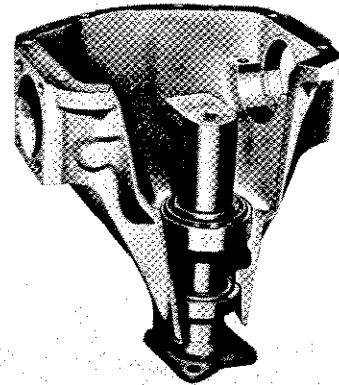
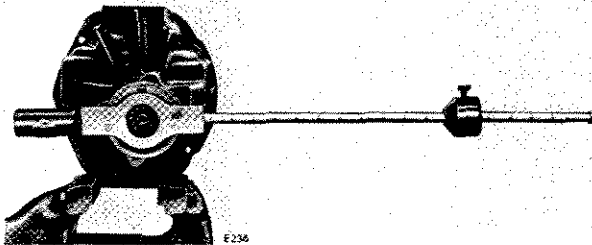

Fig. 78.
Fig. 82. Pre-load gauge
Fit the pinion head bearing cone (60) on the dummy pinion (Fig. 78) and install the assembly into the axle casing. Fit the tail bearing cone (12), the companion flange (18) and the washer and nut (16) and (23) onto the pinion shaft. Do NOT at this stage fit the spacer (58) or the shims (10). Tighten the nut (16) to pre-load the bearings until a torque of 15-18 lb.ins. will just turn the pinion (Fig.82).
Attach a pre-load gauge to the companion flange (Fig. 82).